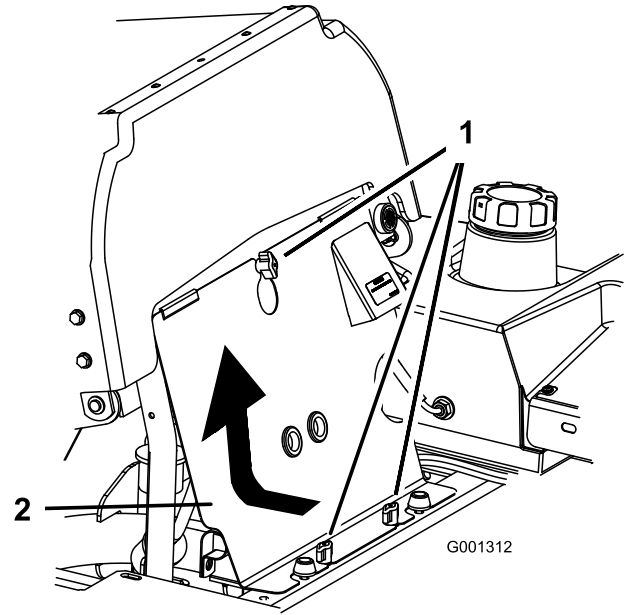

Figure 62
1. Tilt the seat forward and remove the front engine panel (Figure 62).